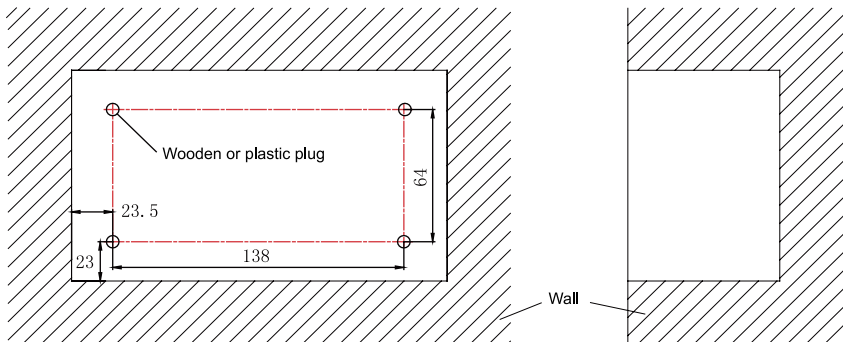

Figure 3-10 Diagram of Wooden or Plastic Plug
- 1) In case that the centralized controller is installed on wall, dig a hole that is the size of 180mm×107mm×62mm and peg 4 wooden or plastic plugs on the wall according to fig.3-10.